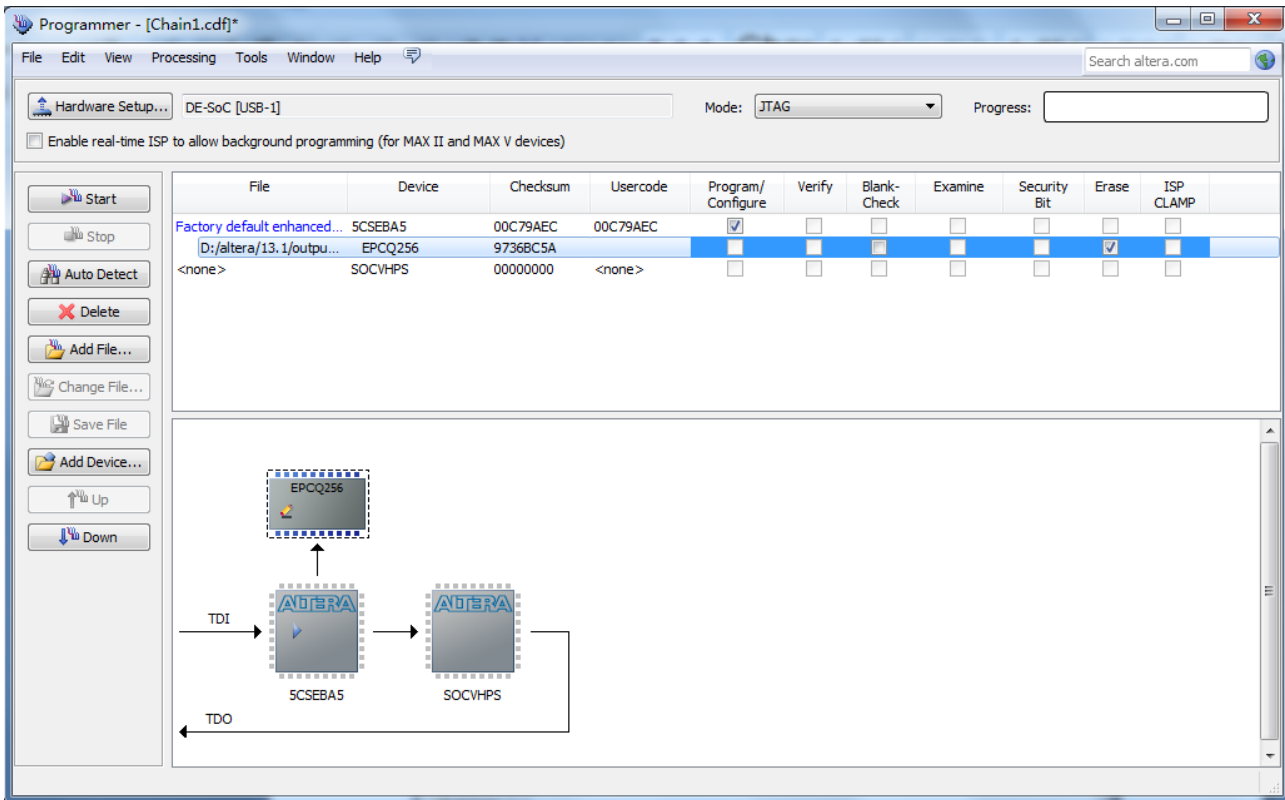

Figure 8-8 Erase the EPCQ device in Quartus II Programmer
5. Erase the EPCQ device by clicking the corresponding **Erase** box. A factory default SFL image will be loaded, as shown in Figure 8-8.